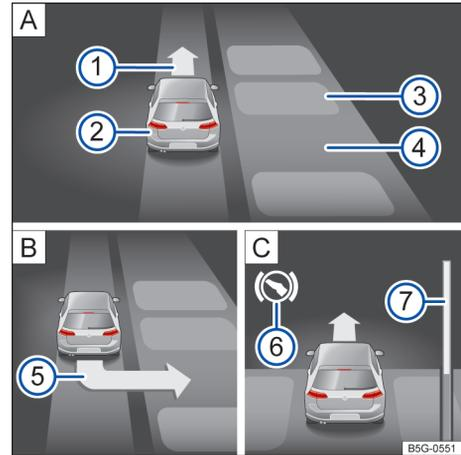

Fig. 120 On the instrument cluster display: park side by side. **A** Looking for a parking spot. **B** Parking position. **C** Manoeuvring.
- Park upon the recommended parking mode showing up on the instrument cluster display → Fig. 120 ⑤ → page 143.
Key to → Fig. 120 (side-by-side parking with reverse gear):
- Brake whenever a sound alarm prompts to change direction, the arrow → Fig. 120 ① **A** lights up, the white **Ⓢ** symbol appears, or when a message is displayed.